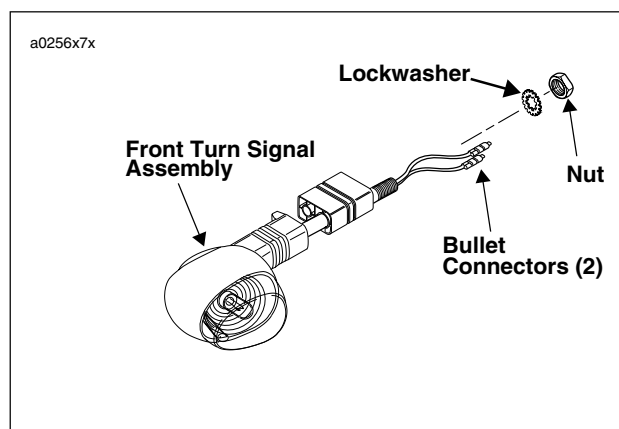

Figure 7-70. Front Turn Signals
3. See Figure 7-70. Remove nut and lockwasher.
1. See Figure 7-70. Install turn signal with lockwasher and nut. Tighten nut to 25-28 in-lbs (2.8-3.2 Nm).